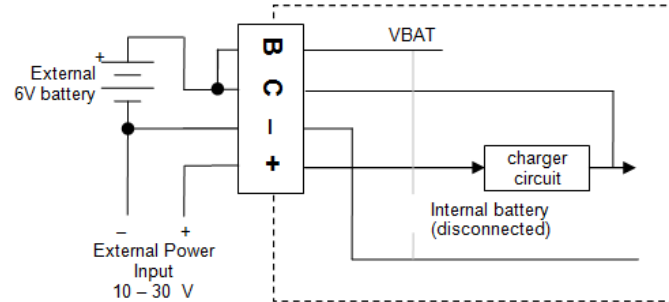

Figure 124: Connecting an external 6V battery – internal battery disconnected or removed
- connecting the link between the **B** and **C** terminals but disconnecting the internal battery connector (Figure 124). If desired the internal battery can then be removed altogether. This is the preferred option because then the **VBAT** channel type can be used to monitor the state of the external battery; see Monitoring DT80 Power \(P287\).